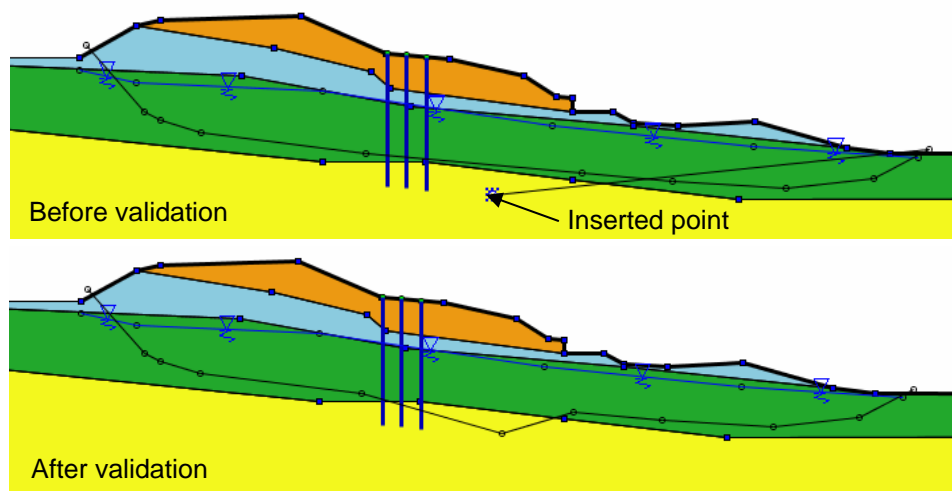

Figure 103: addition of a point to an existing polygonal failure surface
- The points of a polygonal failure surface are automatically ordered by increasing X values when validating the dialogue box: if you define a zigzag failure surface (by typing or drawing), it will automatically be "straightened" when validating the dialogue box. In the same way, if you add a point to an existing failure surface, this point will first be connected to the last point previously defined, but will be ordered after validation of the dialogue box (Figure 103).